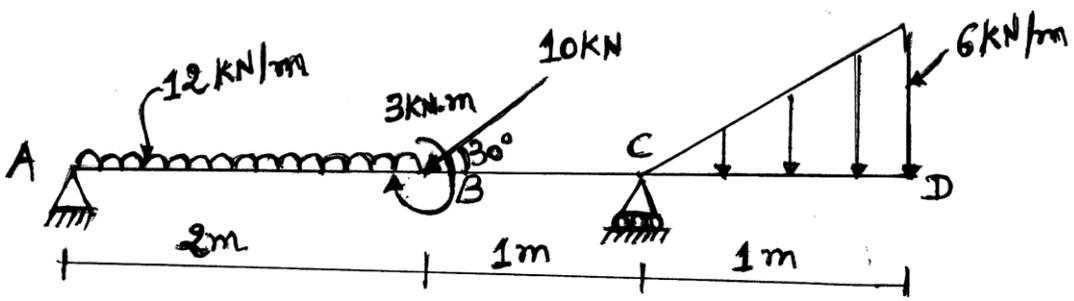

Fig:1
- (1) Hardness
- (2) Brittleness
- (3) Ductility
- (4) Malleability
- (5) Elasticity
- (6) Strength
- (7) Toughness.
- Q.2 (a)** A simply supported overhanging beam ABCD is loaded as shown in Fig:1. Calculate **07**